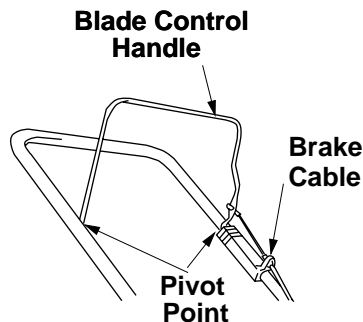

Figure 14
**Blade Control** - Lubricate the pivot points on the blade control handle and the brake cable at least once a season with light oil. See Figure 14. The blade control must operate freely in both directions.